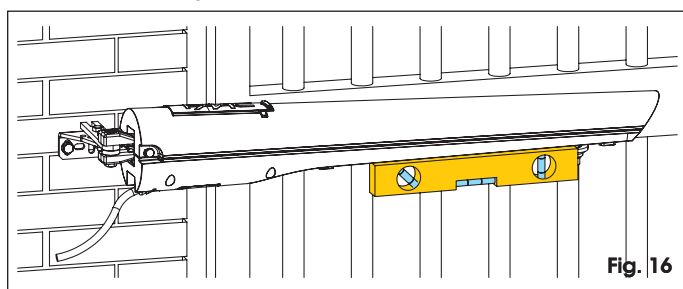

Fig. 16
9. Check that the operator is horizontal using a spirit level, as indicated in figure 16, and provisionally secure it with clamps or two welding points.